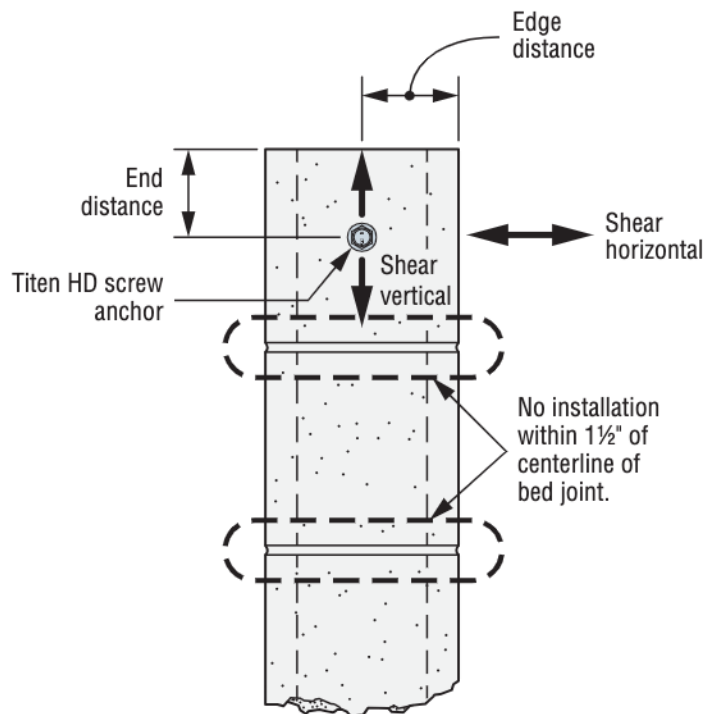

Figure 9.
9. Minimum edge and end distances are measured from anchor centerline to the edge and end of the CMU masonry wall, respectively. Refer to Figure 9 below.
10. Anchors must be installed a minimum of 1 1/2" from centerline of bed joints. See Figure 9 for prohibited anchor installation locations.